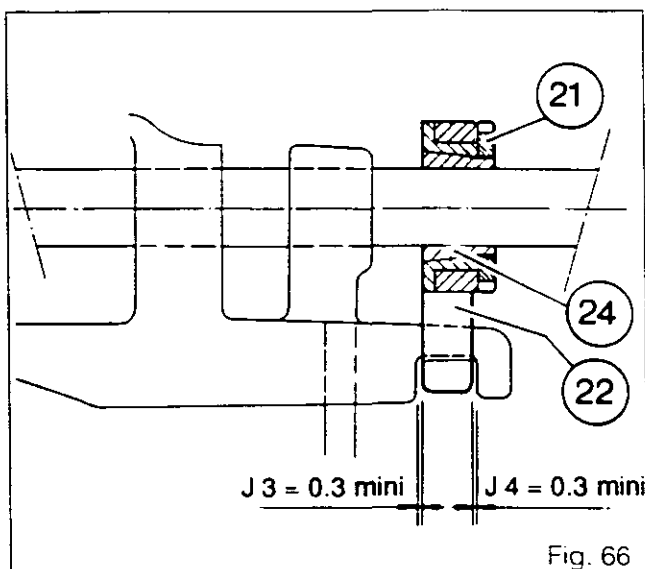

Fig. 66
226. Divide the J3 and J4 play (minimum 0.3 mm) equally so that the mechanical lock (22) moves freely (Figs. 66 & 67).